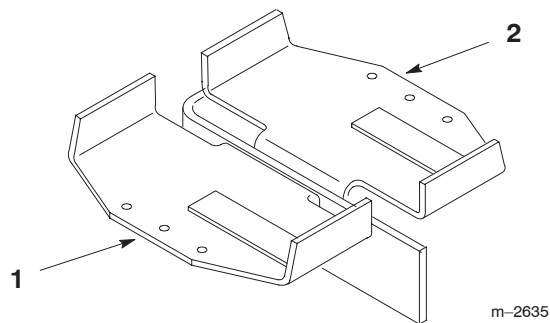

Figure 6
1. Mount battery holders to back side of left rear corner of cutting unit carrier frame with 2 bolts (3/8 x 1-3/4 inch) and locknuts (3/8 inch) (Fig. 6).
2. Peel off backing from battery pads and affix pads to battery holder, positioning as shown in Fig. 6.